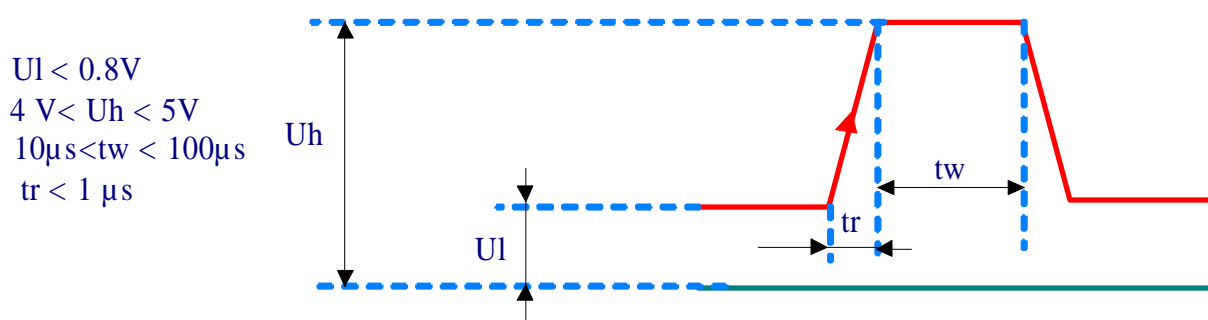

Figure III-2: Characteristics of the input signal for flashlamp synchronization
3. **Lamp In:** (BNC Connector) provides external synchronization of the flashlamp fire order when External Flashlamp Trigger Mode is selected via the Remote Box or serial interface. The trigger source must be capable of supplying a pulse with the following characteristics: Amplitude: $+5V_{NOM}$ into 50 ohms, Pulsewidth: $10\mu s$ to $100\mu s$ as described on figure III-2